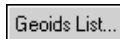

Figure 3-13. Geoids list button
1. Click **Geoids List** (Figure 3-13).